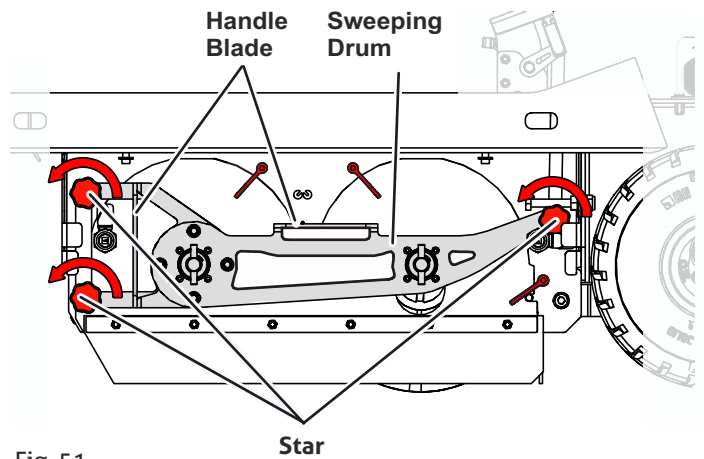

Fig. 51
- Remove the three star handles (Fig. 51)
- Pull out sweeping drum blade on the handles (Fig. 51)